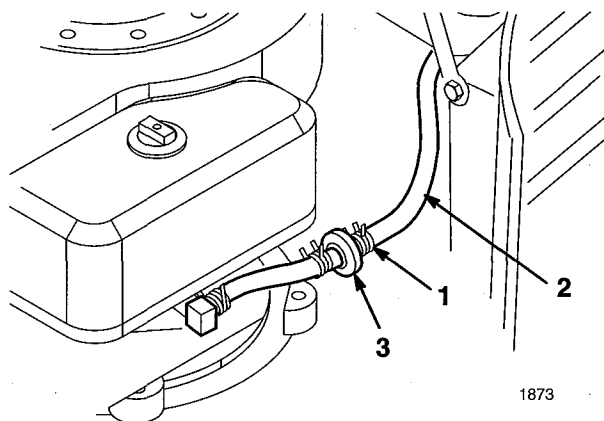

Figure 22
3. Squeeze the ends of the hose clamp together and slide it up the fuel line toward the fuel tank (Fig. 22).
4. Pull the fuel line off the filter (Fig. 22) and allow gasoline to drain into a gas can or drain pan.
The best time to replace the fuel filter (Fig. 22) is when the fuel tank is empty. Never install a dirty filter if it is removed from the fuel line.
3. Squeeze the ends of the hose clamps together and slide them away from the filter (Fig. 22).